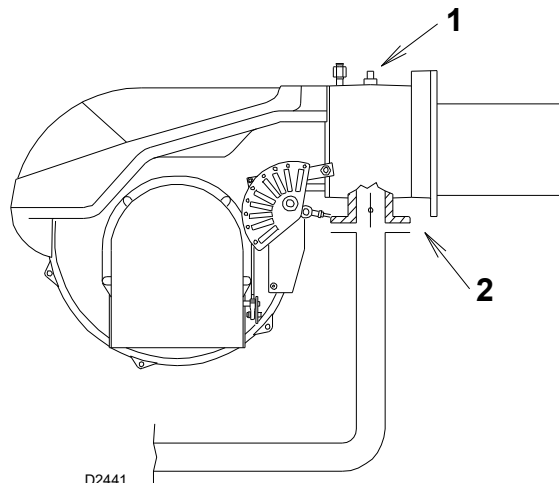

Fig. 22
Δp_1 - Gas pressure is measured at the test point 1)(Fig. 22), with:
Δp_2 - Load loss at gas butterfly valve 2)(Fig. 22) with maximum opening: 90°.
- subtract the combustion chamber pressure from the gas pressure measured at test point 1)(Fig. 22);
- Gas pressure at test point 1)(Fig. 22) = 4.09" WC